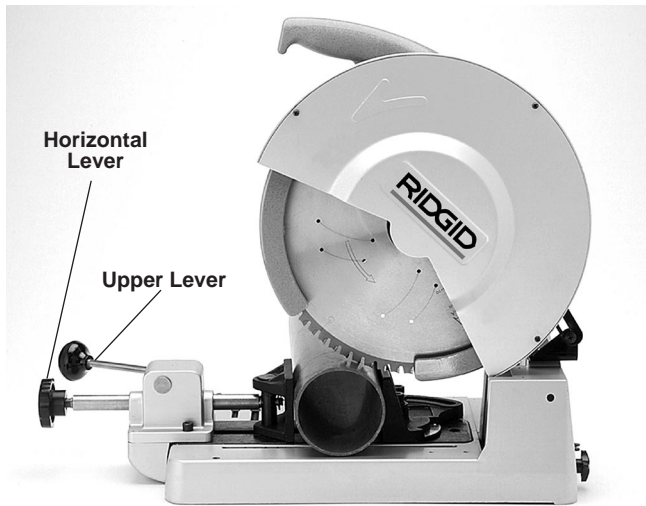

Figure 8
- Raise the upper lever to release the feed mechanism. (Figure 8)
- Push the horizontal lever (feed or fence bar) until the vise contacts the pipe. (Figure 8)